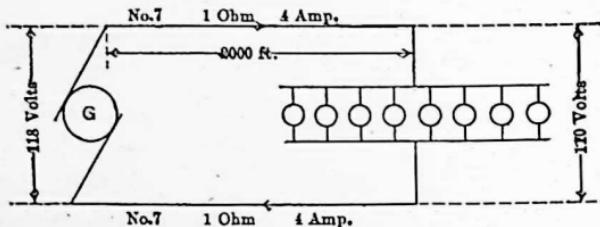

FIG. 90. Two-wire system. The two line wires each carry 8 times the current of 1 lamp.
47. Relation of Voltage to Watts Lost in the Line. Let us assume that we wish to use eight 110-volt lamps, each taking $\frac{1}{2}$ amp., as in Fig. 90. The lamps are 2000 ft. from the generator and No. 7 wire is used, which makes about one ohm per wire.
The line, then, has to carry only 2 amp. and being the same wire as in Fig. 90 has a total resistance of 2 ohms.
which is the same as in the 110-volt line of Fig. 90, which used 4 times as large a wire.
the total amount of copper is a little greater than $\frac{1}{4}$ that of the two-wire system of Fig. 90. In fact, there is just $\frac{3}{4}$ as much copper in the three-wire system.